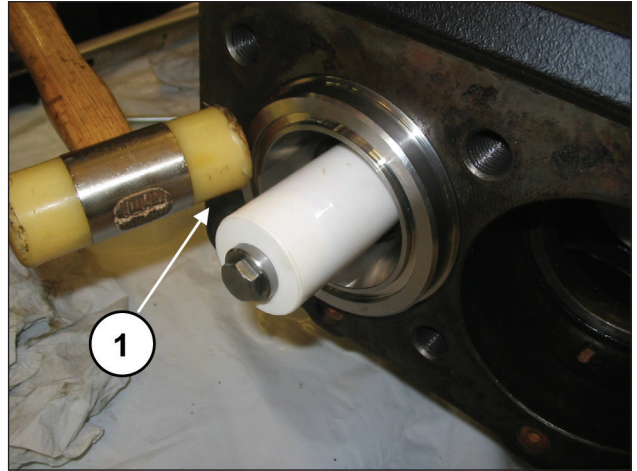
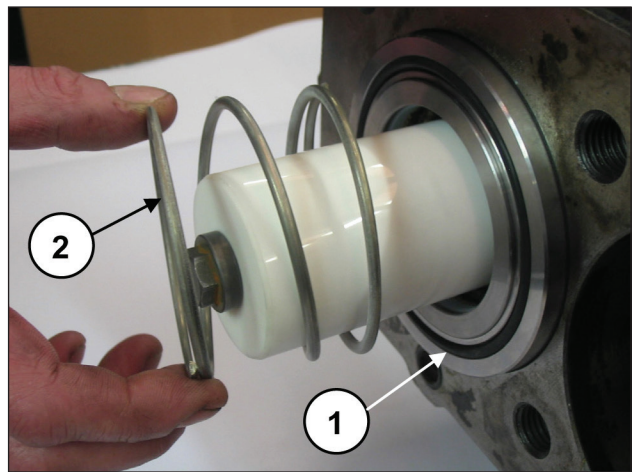

Fig. 186
Fig. 187
Ensure that the liner-support block is positioned correctly down to the bottom of the housing (pos. ①, Fig. 186); now mount the front O-ring of the liner and the spring (pos. ①②, Fig. 187).